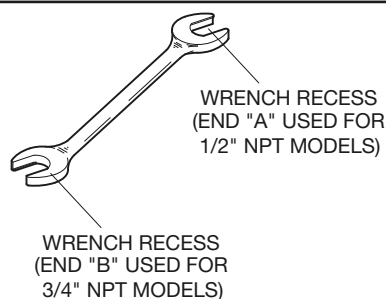

FIGURE 10
Step 3A. Tighten the sprinkler into the sprinkler fitting using only the W-Type 6 Sprinkler Wrench, refer to Figure 10. With reference to Figures 1, 2, 3, and 4, apply the W-Type 6 Sprinkler Wrench to the sprinkler wrench flats.
Step 3C. Tighten the sprinkler into the sprinkler fitting using only the W-Type 6 Sprinkler Wrench, as shown in Figure 10. Apply the W-Type 6 Sprinkler Wrench to the wrench flats shown in Figure 5 and Figure 6.